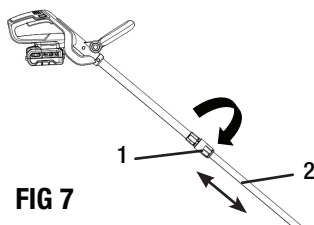

FIG 7
## ADJUSTING THE HEIGHT (FIG 7)
To adjust the height of the trimmer, loosen the shaft coupler (1) by turning it clockwise as shown in Fig 7, move the bottom shaft (2) up and down to the desired length, tighten the coupler by turning it counterclockwise.